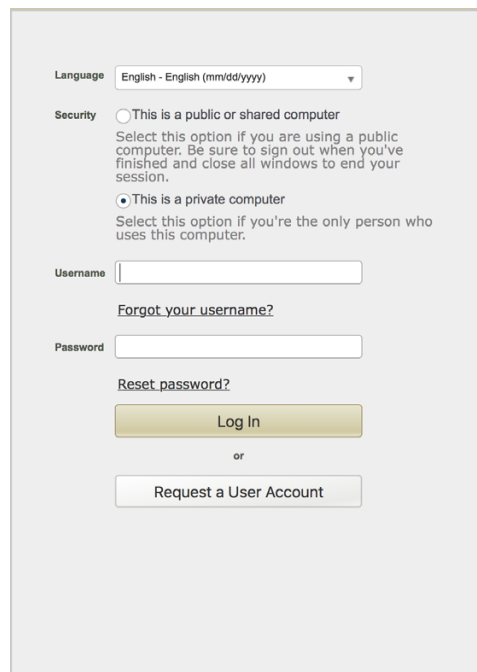

Figure 12 – Login screen.
1. Open the *MAXFRAME 3D Software* web page [<http://www.maxframesystem.com>] in your web browser. The login dialog appears (cf. figure 12 on page 16).